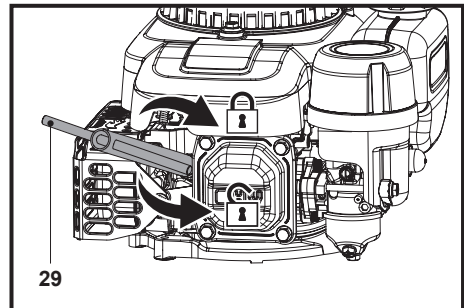

Fig. 21
- Loosen the spark plug anti-clockwise using the spark plug wrench (29) and remove it carefully (Fig. 21).